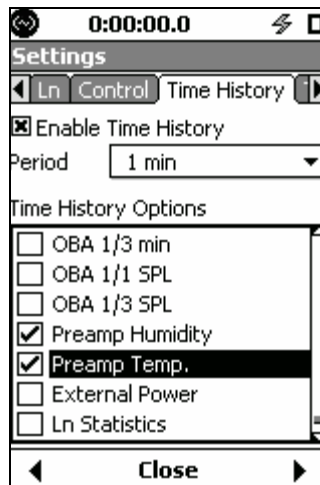

FIGURE 3-6 Preamp Humidity and Temperature History Setup
Step 3 In the **Time History** list, press **ENTER** and scroll down the list of options. Press the **RIGHT ARROW** key to enable **Preamp Humidity** or **Preamp Temp.**, as shown in FIGURE 3-6.